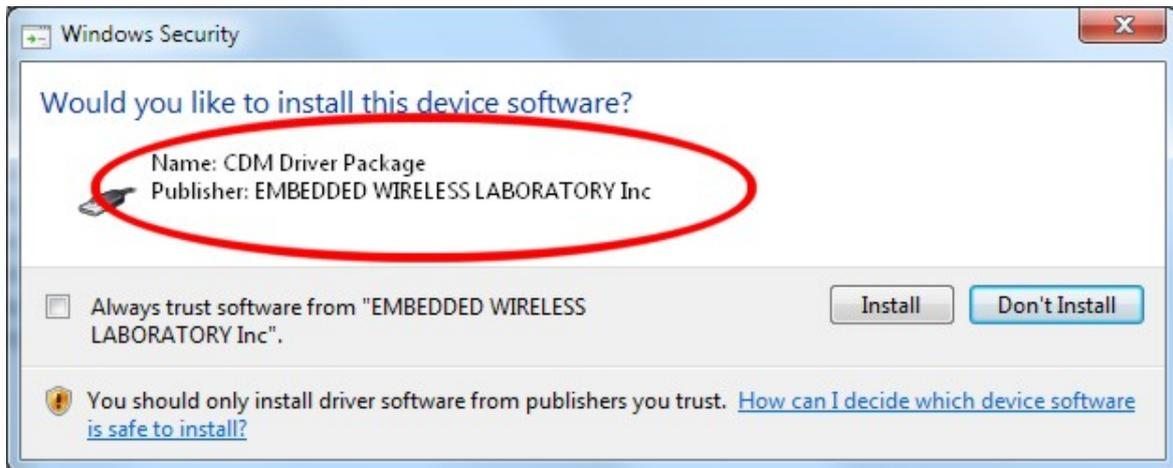

Figure 8. "Windows Security" alert
- In a couple of seconds, the Windows security alert screen will appear. Make sure the drivers are signed by "EMBEDDED WIRELESS LABORATORY Inc." Press the "Install" button (Figure 8)